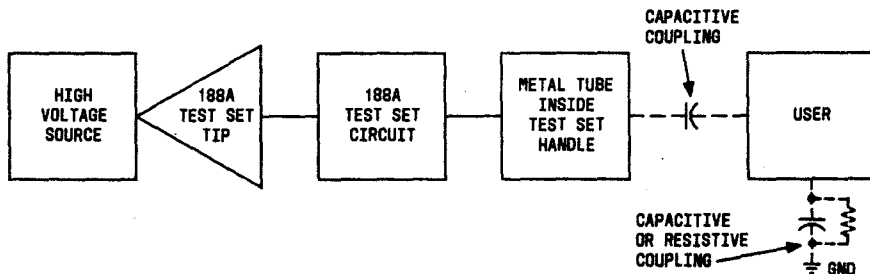

Fig. 6—Current Path
4.04 The presence of potentially hazardous voltage is detected by an extremely small current in a path from the high voltage source at the tip of the 188A test set, through the circuitry inside the test set, the metal tube inside the handle and the hand of the user outside the handle, and capacitive or resistive coupling between the user and ground. This current is so small that it is below the threshold of human feeling. Figure 6 is a block diagram showing this current path. Although the current in this path is miniscule, the path *must* exist for proper operation. The user